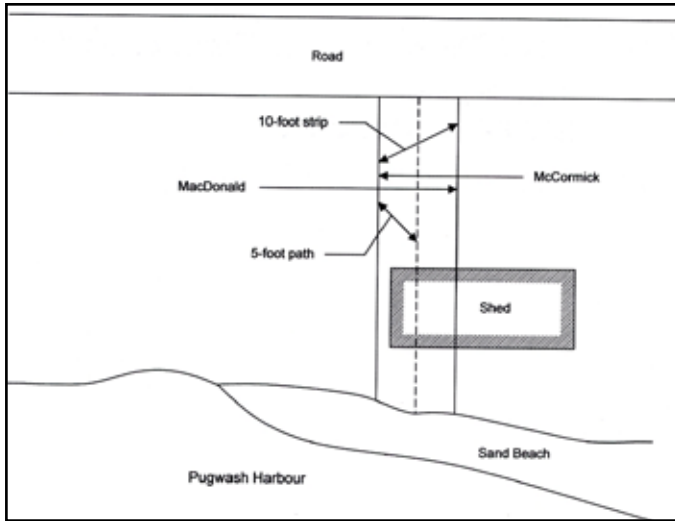

Figure 2: *MacDonald v. McCormick*
**Figure 2: A strong PPP solution should have stable ambiguities such as those displayed in (a) while frequent ambiguity resets, such as those of (b), greatly weaken the PPP solution.**
eters, including other satellite ambiguities, are resolved. A strong PPP solution should have stable ambiguities such as those displayed in Figure 2(a) while frequent ambiguity resets, such as those of Figure 2(b), greatly weaken the PPP solution. In this particular instance, the multitude of ambiguity resets were caused by the receiver losing lock on the L2 signal resulting in PPP being unable to form the ionosphere-free L1-L2 observation combination, which is essential for a precise solution.